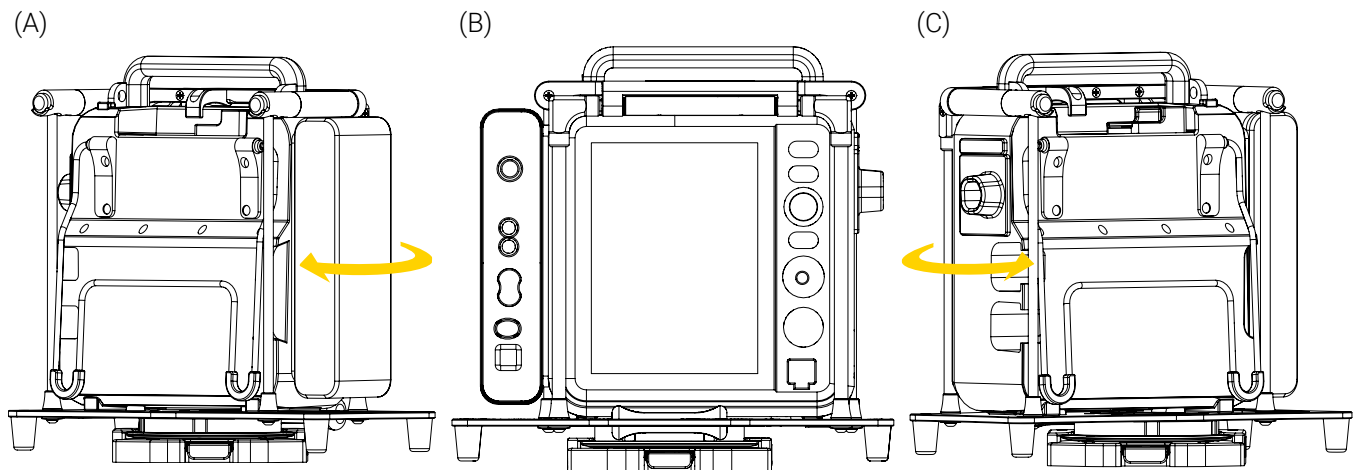

Figure 12: Operating the support bracket
3. Turn the support bracket clockwise or counterclockwise, to the desired position (Figure 12).